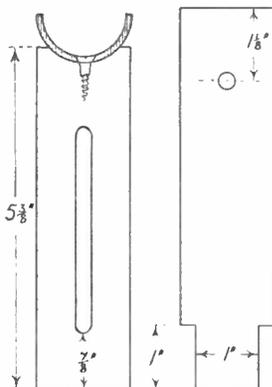

Fig. 2
For the pillars (Fig. 2)  $1\frac{1}{4}$  ins. by  $\frac{1}{4}$  in. stripwood is used. The slot in the upper pillar (left) should be
Fairly light taps will generally do the job better than heavy blows. The hollow tube will enable the dust which is cut away to come out as you proceed. Next the back of the hole must be made considerably larger as at (B) Fig. 2, and should be done without interfering with the front opening. A cold chisel will probably do this job quite effectively if used carefully. Again gentle taps should be used, so as not to crack the surrounding surface.
Fig. 2 (C) shows how to fix the bolt. Cut a number of short ferrules from a piece of lead or compo pipe Fig. 2 (D). These are placed one at a time over the bolt and well hammered home with a piece of tube. The lead will swell out and fill every crevice and the hammering will harden the lead somewhat.